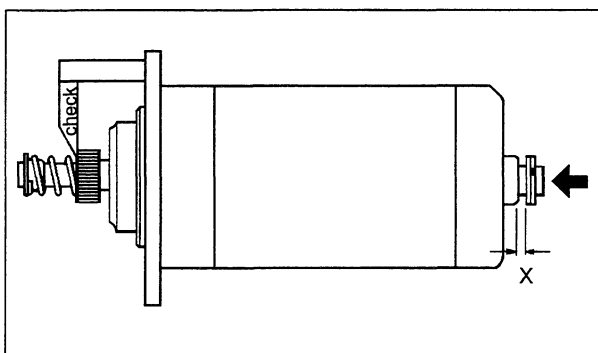

Fig. 16 'X' Dimension
- (v) Bolt the relevant setting gauge (see Section 6.1 SPECIAL TOOLS) to the mounting flange as shown in fig. 16. Push the armature towards the drive end of the starter; the pinion face should just touch the gauge as the circlip closes the shims against the bearing bush face i.e. 'X' should be zero. If this does not occur, follow the procedure in Section 4.9.2.
- (ii) Bolt the gauge on to the mounting flange as shown in fig. 16. Push the armature towards the drive end of the machine until the pinion face just touches the gauge. With the armature held in this position, measure gap 'X' between the thrust washers (26) and the bearing bush flange, using feeler gauges.